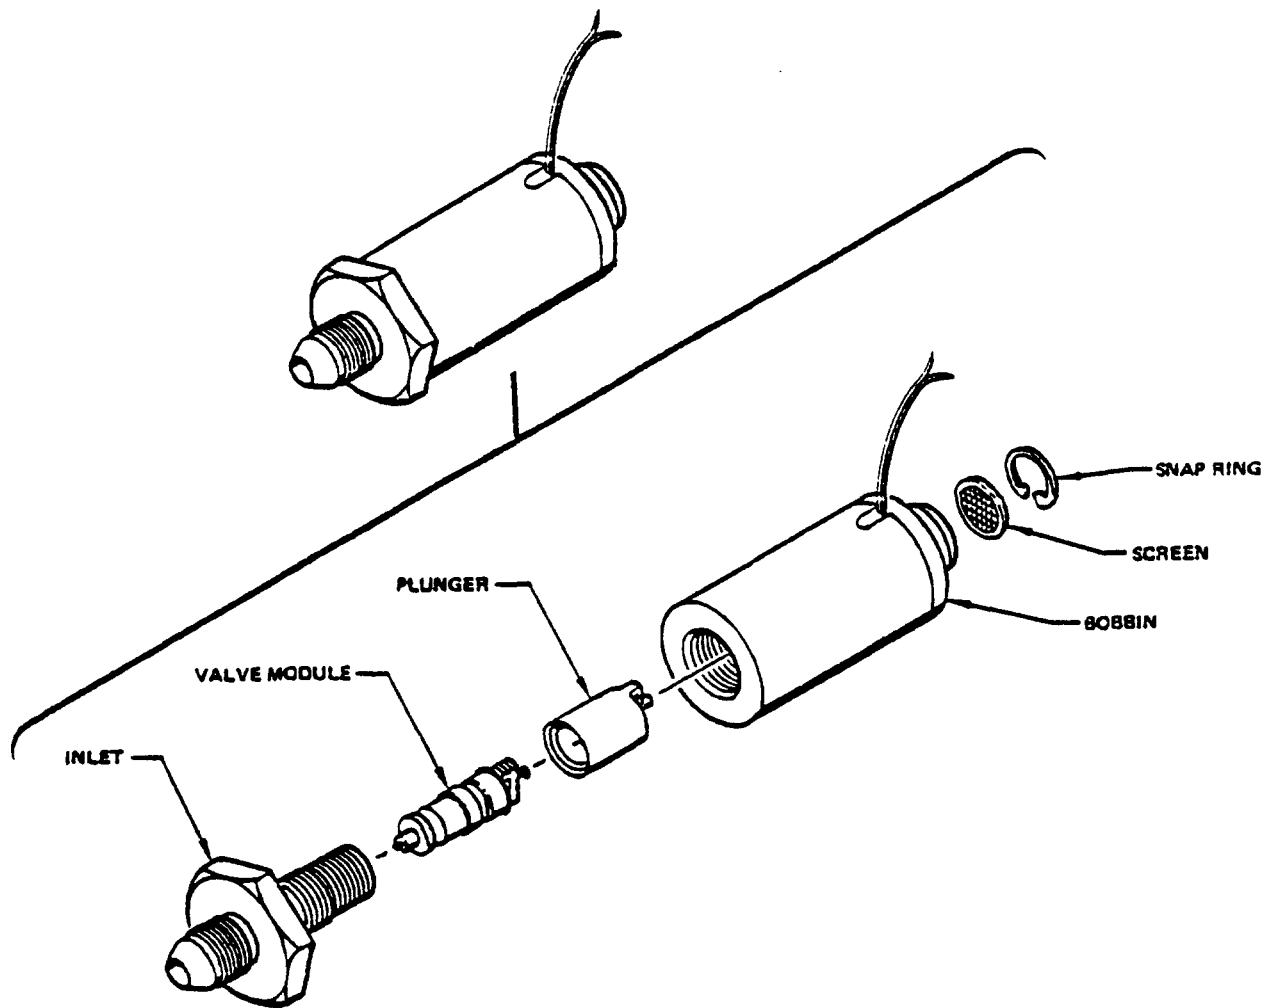

Figure 1 - Bleed-off Solenoid Valve
1. **Description.** The bleed-off solenoid valve (see Figure 1), is mounted at the 6 o'clock position in the aft nacelle between frames 4 and 5. In later production units and older units complying with SC-F20-003, the bleed valve has been repositioned (see Figure 6, 78-30-00). The primary component parts of the bleed-off solenoid valve are the bobbin (solenoid), plunger, valve module, and inlet fitting. The valve functions as a component part of the safety system which prevents stowing the reverser at engine power settings above 80% N1.